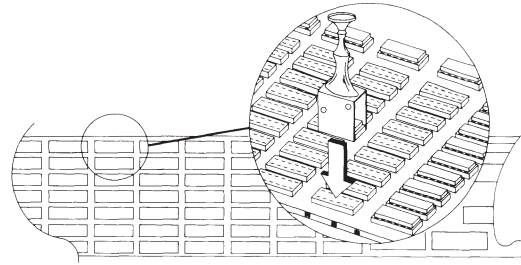

Figure 7-29. Inserting the Memory Chip.
1. Using a memory chip insertion tool, insert the replacement memory chip so that the notch, or Pin 1 locator dot, on the chip is oriented toward the eight I/O connectors on the board (Figure 7-29).